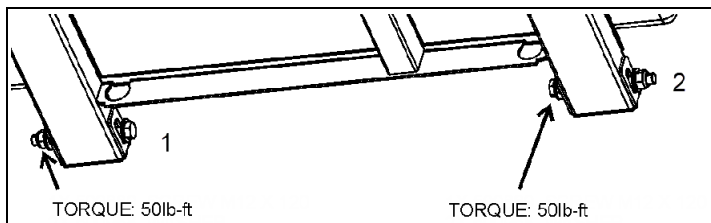
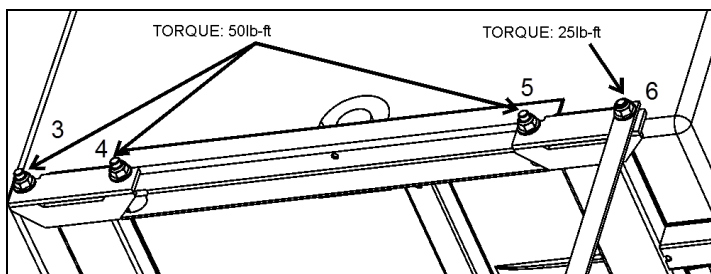

FIGURE 4
FIGURE 5
- f) Once properly supported, unscrew the bolts (6) holding the fuel tank support to the vehicle chassis (fig.4 & fig.5).